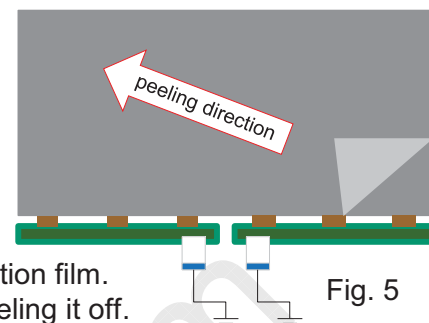

Fig. 5
- (1) Please keep attaching the protection film before assembly.
- (2) Please peel off the protection film slowly.
- (3) Please peel off the protection film just like shown in the Fig. 5
- (4) Ionized air should be blown over during the peeling.
- (5) Source PCB should be connected to the ground when peel off the protection film.
- (6) The protection film should not be contacted to the source D-IC during peeling it off.